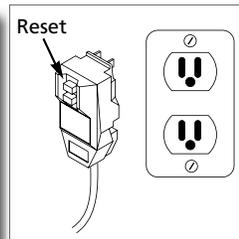

Fig. 13
- Unwind the power cord completely and plug the GFCI into a grounded 120 volt outlet. Press the ‘reset’ button on the GFCI box (Fig.13). The indicator window should show a red color. This must be done each time the unit is plugged in.